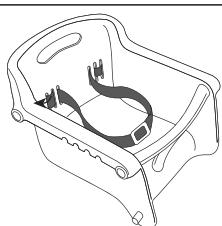

Figure 9
- Weave each end of the seatbelt through the remaining slots in the back of the seat. (See Figure 9)